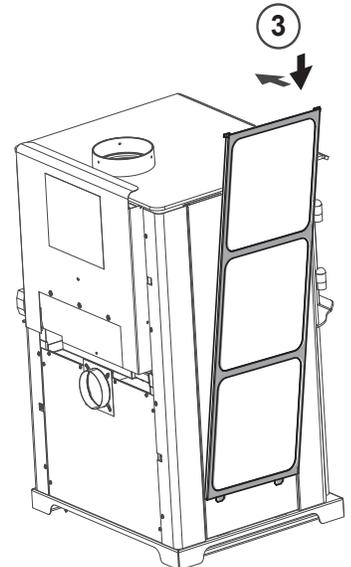

Figure 17.5
- Reattach tile frame **Figure 17.5**.